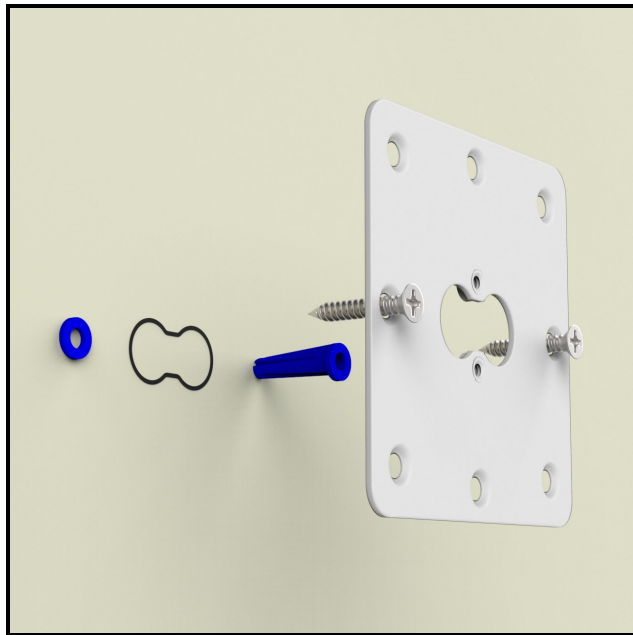

Figure 17
- Using a pencil, mark the shape of the cutout on the opposite end of the template (Figure 17).